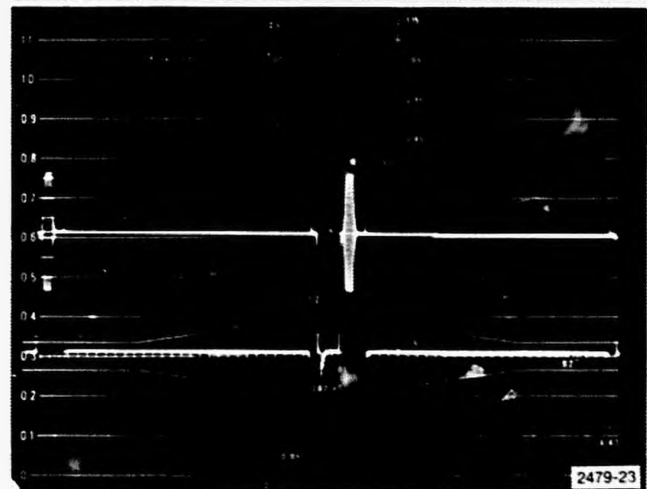

Fig. 4-1. Setting Luminance Gain with the Variable Amplitude Calibrator.
- Adjust—R429, Luminance Gain, for peak luminance of 700.0 mV (± 7.0 mV), using the Variable Amplitude Calibrator. See Fig. 4-1.